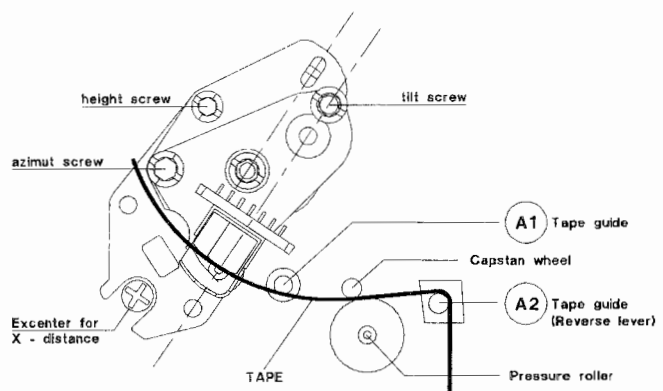

Fig. 19
- By means of the tilt angle adjusting screw move the tape until the lower edge just touches the tape guide A1 (see Fig. 19) the tape must not be distorted at the lower edge (by pressing onto guide).
- By means of the tilt angle adjustment screw move over the tape until the lower edge just touches the tape guide A2 (see fig.19) (by pressing onto guide). After that turn the tilt angle adjustment screw anticlockwise for 60° - 90° (The tape must not touch guide A2).
- Adjust to maximum output voltage by means of the azimuth adjustment screw (Fig. 19).
- Display the TRIV signal on an oscilloscope (DC-coupled) and adjust for maximum voltage by means of the eccentric screw (Fig.19).